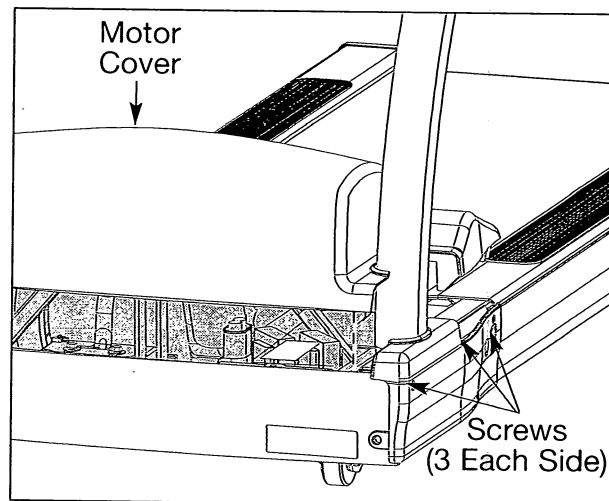

Figure 2
- A. Turn the main power switch on the left side to the off (O) position.
- A. Using a Phillips head screwdriver, loosen three screws on each motor cover side (left and right). See Figure 2.
- B. Lift the motor cover up and off the treadmill. The screws will stay in place. See Figure 2.
- A. Lower the motor cover center into position. See Figure 2.